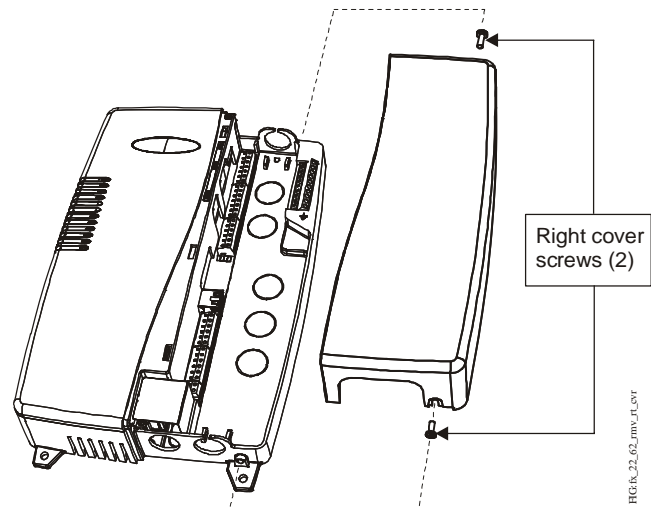

Figure 3: Right Cover Removal and Replacement
2. Use a #1 Phillips screwdriver to remove the right cover first (see Figure 3). Set the two screws aside.
Note: The controller's right cover must be off to see the two LEDs on the GPRS modem option card. After modem checkout, replace the right cover (see Figure 3).